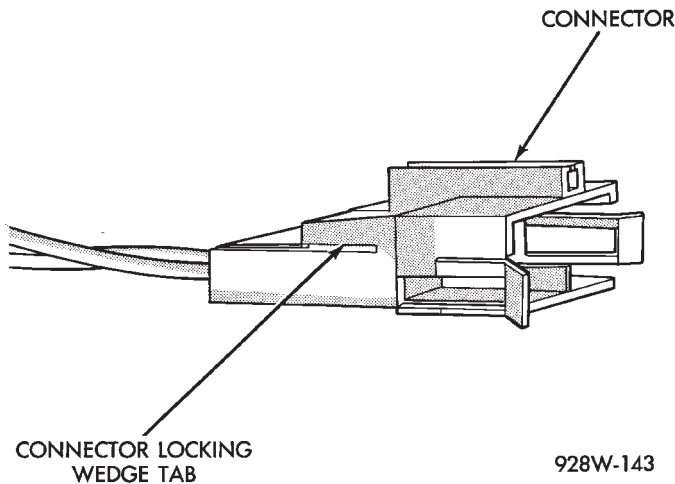

Fig. 14 Connector Locking Wedge Tab (Typical)
- (1) Disconnect battery.
- (2) Disconnect the connector that is to be repaired from its mating half/component.
- (3) Remove connector locking wedge, if required (Fig. 14).
- (2) Disconnect the connector being repaired from its mating half.